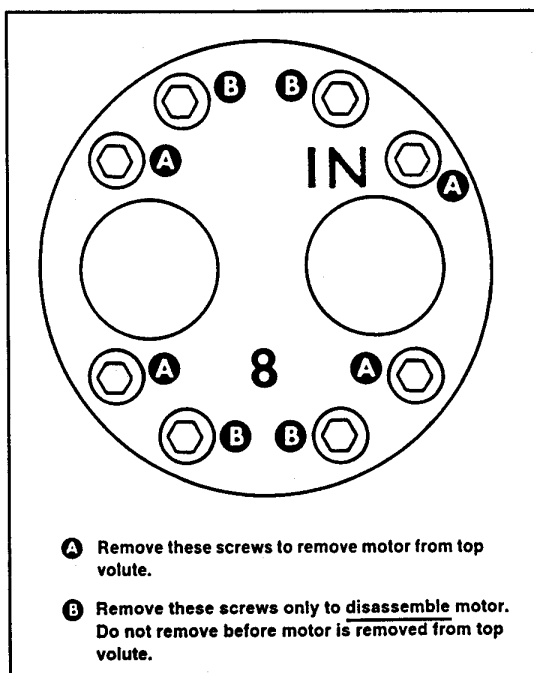

Figure 1. Motor Mounting Screws
4. Remove ONLY the four 10-24 x 3 hex socket head capscrews, marked "A" in Figure 1, then PUSH on the MAINSHAFT end to remove the assembled motor from the volute top.
4. Remove ONLY the four 10-24 hex socket head capscrews, marked "A" in Figure 1, then PUSH on the MAINSHAFT end to remove the assembled motor from the volute top.
1. Remove the four 10-24 x 2 socket head capscrews, marked "B" in figure 1, securing the motor gear housing to the front bearing retainer.
6. With the gear housing correctly fitted against the front bearing retainer, install the four 10-24 x 2 socket head capscrews, marked "B" in figure 1. Tighten the capscrews to 35 pound inches (lubricated). Check that the shaft turns freely.